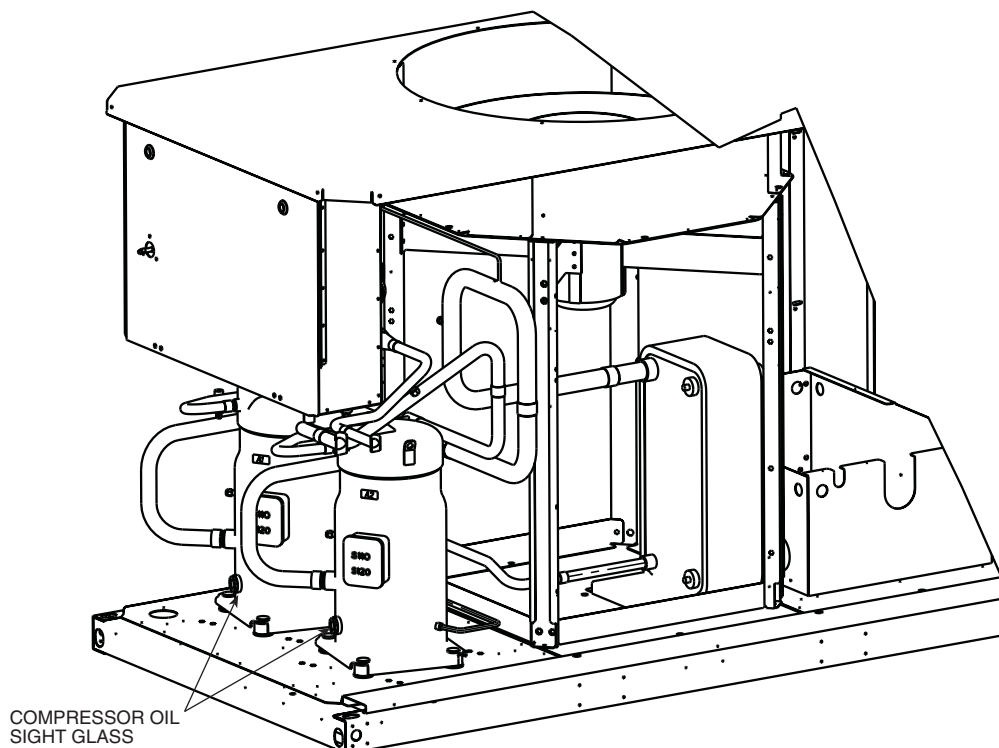

Fig. 39 — Compressor Connections and Oil Sight Glass Location
5. Oil should be visible in the compressor sightglass(es). See Fig. 39. An acceptable oil level in the compressors is from $\frac{1}{4}$ to $\frac{3}{4}$ of sight glass. Adjust the oil level as required. See Check Oil Charge section on page 60 for Carrier approved oils.